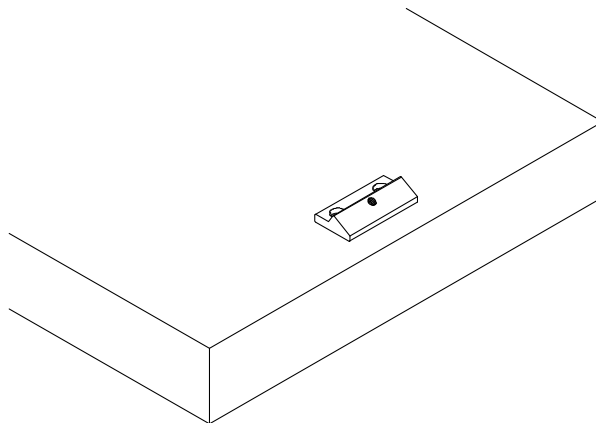

Figure 1
STEP 1. The 18x24 inch surface plate is furnished with inserts installed for a 75mm rail and is attached in “Section 4: Attaching the rail to the surface plate” as shown in Fig. 1. Make certain the rail, the surface plate next to the rail, the bottom face and the inside locating surface of the PS01 or MCD01 are clean.